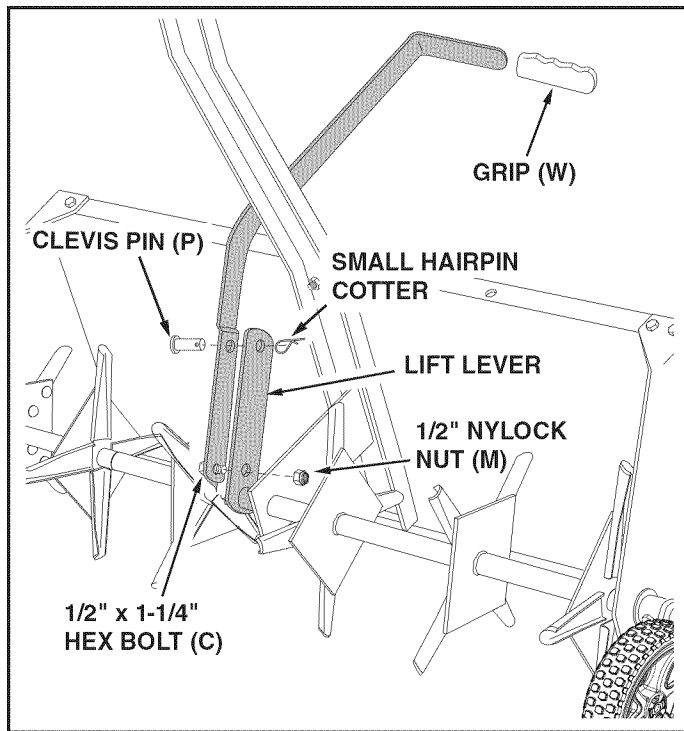

FIGURE 11
- Turn the lift handle as shown in figure 11 and attach it to the side of the lift lever that is indicated. Use a 1/2" x 1-1/4" hex bolt (C) and 1/2" nylock nut (M) in the bottom hole and the clevis pin (P) and small hairpin cotter in the top hole. **Tighten** the bolt and nut. See figure 11.
- Push the grip (W) onto the lift handle. See figure 11.